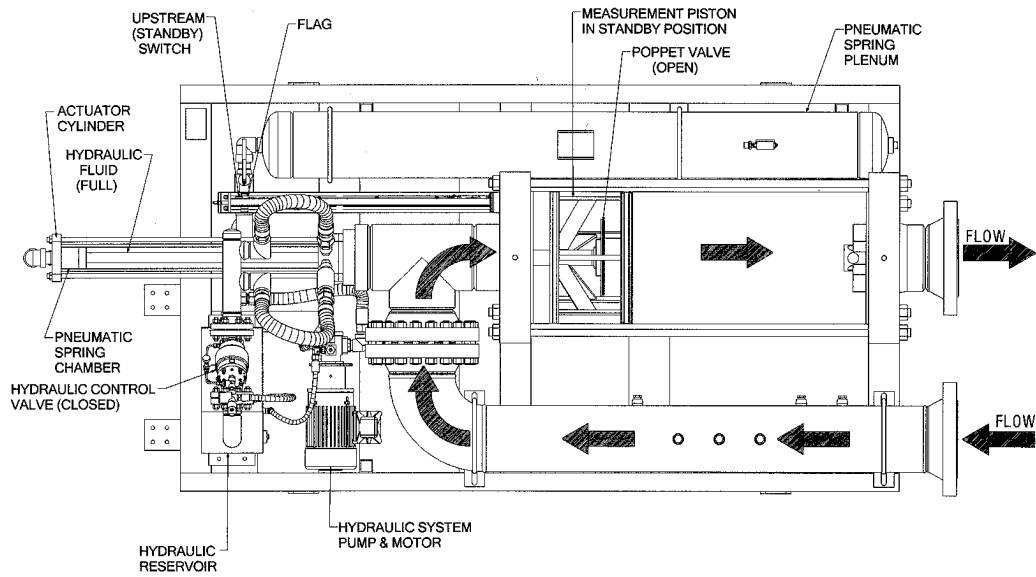
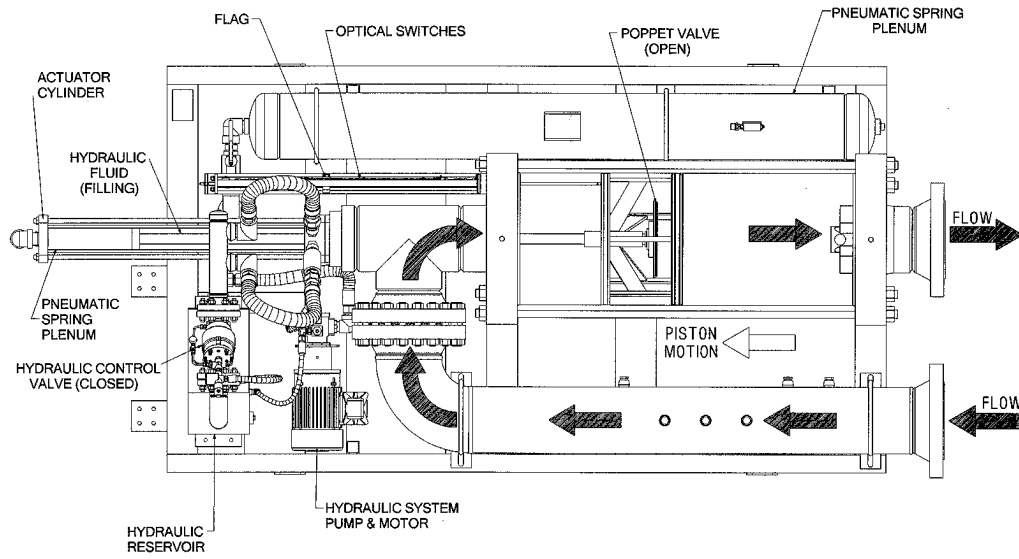

Figure 3-1 Standby Position
Figure 3-5. Piston Returning to Upstream Position
1. The measurement piston is normally in the upstream (standby) position, with the poppet valve open, and is held in place by the hydraulic pressure on the actuator piston (Figure 3-1).
5. The actuator piston, measurement piston, poppet, actuator shaft, detector shaft and flag will then move back to the upstream (standby) position (Figure 3-5). Once the upstream position is reached (Figure 3-1), the hydraulic pump will assume it’s neutral condition maintaining hydraulic pressure to hold the measurement piston upstream. The prover is now ready to begin another pass.